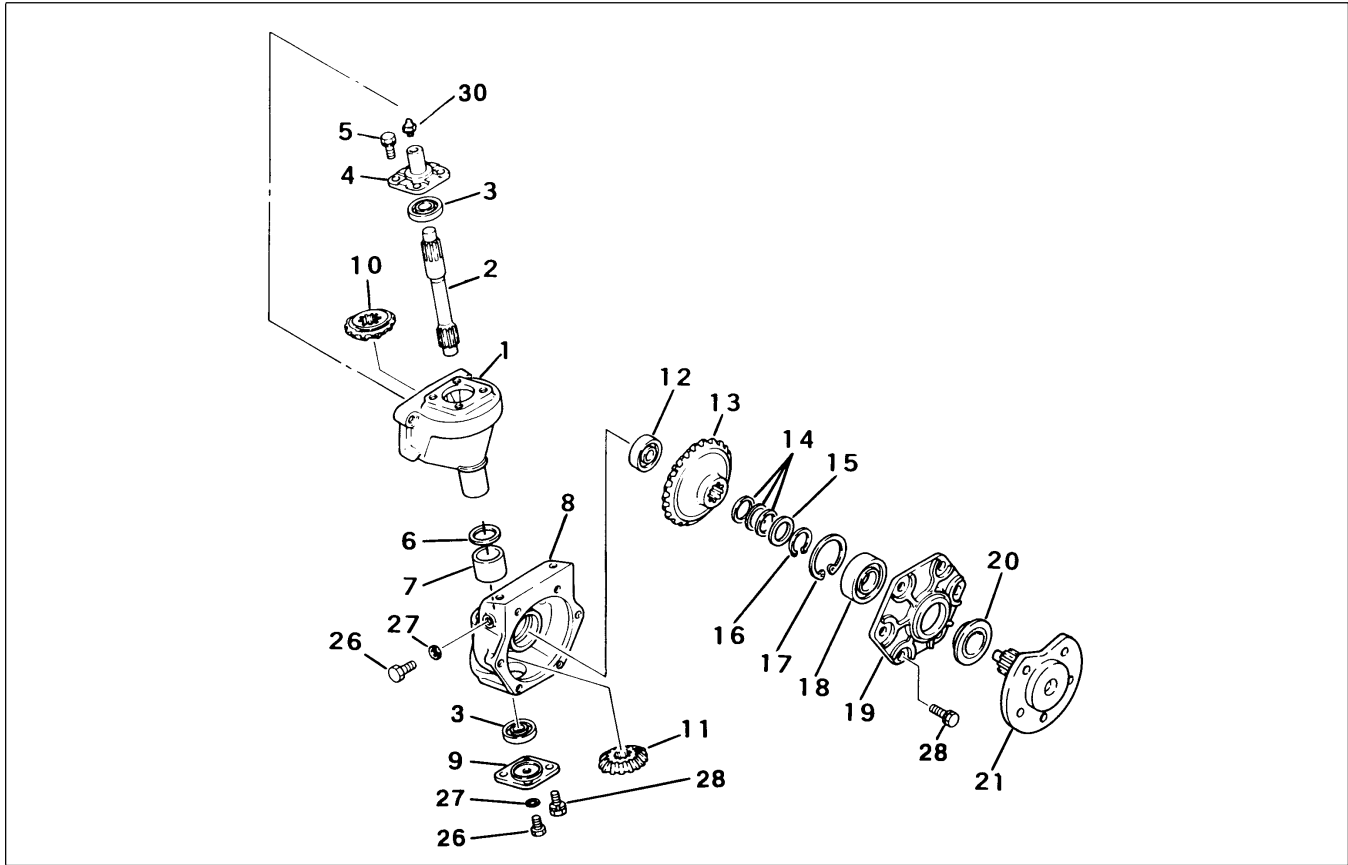

Figure 18
1. Remove bearing holder (Fig. 18, Item 19) from final drive case. The holder will come out together with the wheel shaft (Item 21).